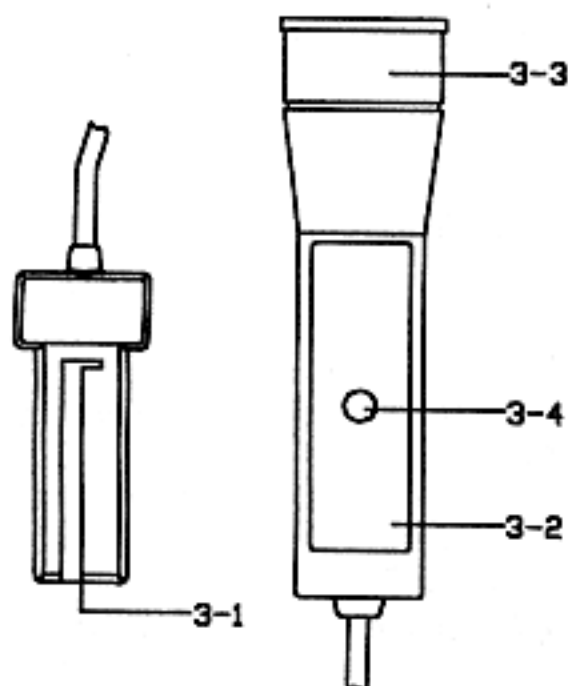

Fig. 1
- 1) Connect the " IR Thermometer Probe plug " ( 3-1, Fig. 1 ) into the meter ( YK-2001TM ).
If find that the measuring values exist one or two degrees deviation especially when measure the low temperature, then slightly adjust the " Offset Adjust VR " ( 3-4, Fig. 1 ) to make the compensation until get the correct reading.